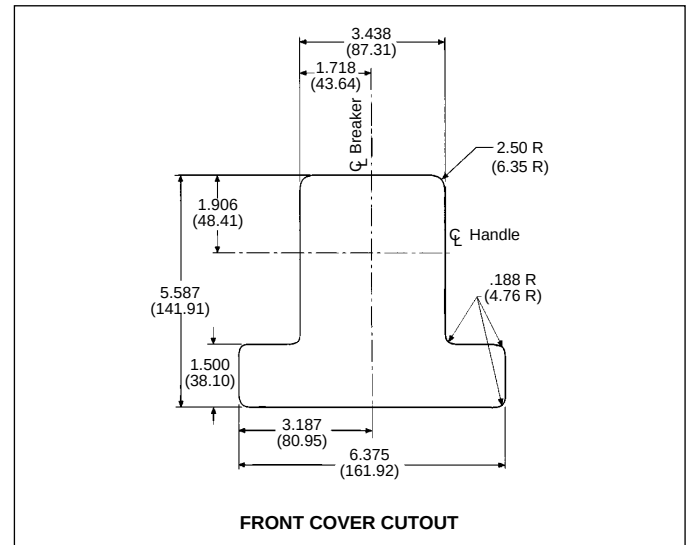
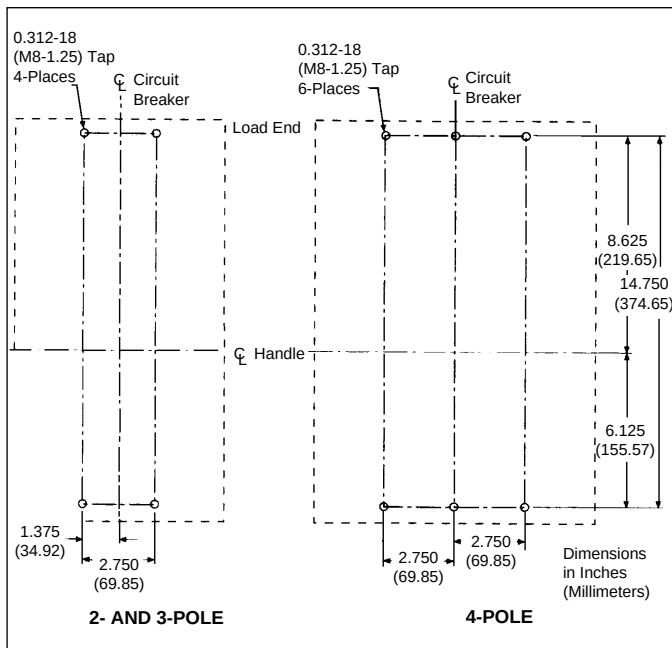
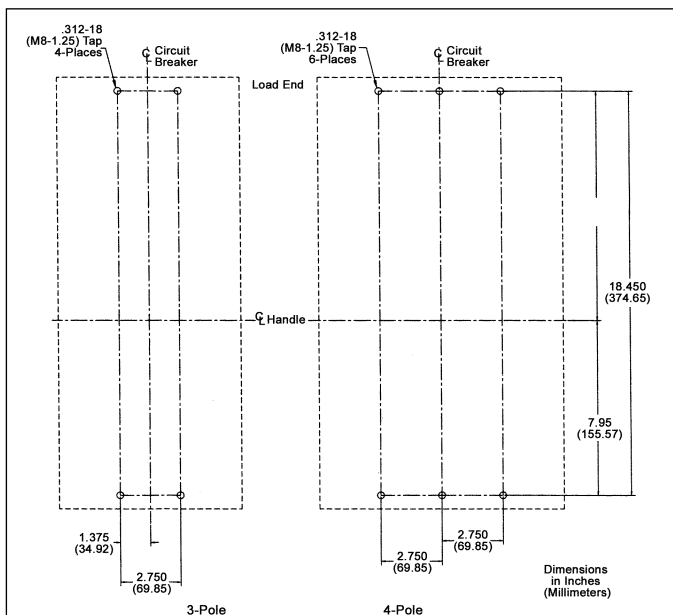

Figure 2-6 Circuit Breaker Escutcheon Dimensions
Figure 2-5 Breaker Mounting Bolt Drilling Plan - 800A, 1200A, 1250A Circuit Breaker and 1600A front connected Circuit Breakers.
Figure 2-7 Breaker Mounting Bolt Drilling Plan - 1600A Rear Connect Circuit Breaker
- For individual surface mounting, drill mounting panel using the drilling plan shown in Figure 2-5. For dead front cover applications, cut out cover to correct escutcheon dimensions, see Figure 2-6.
- a. For individual surface mounting, drill the mounting panel using the drilling plan shown in Figure 2-7. For dead front cover applications, cut out cover to correct escutcheon dimensions, see Figure 2-6.